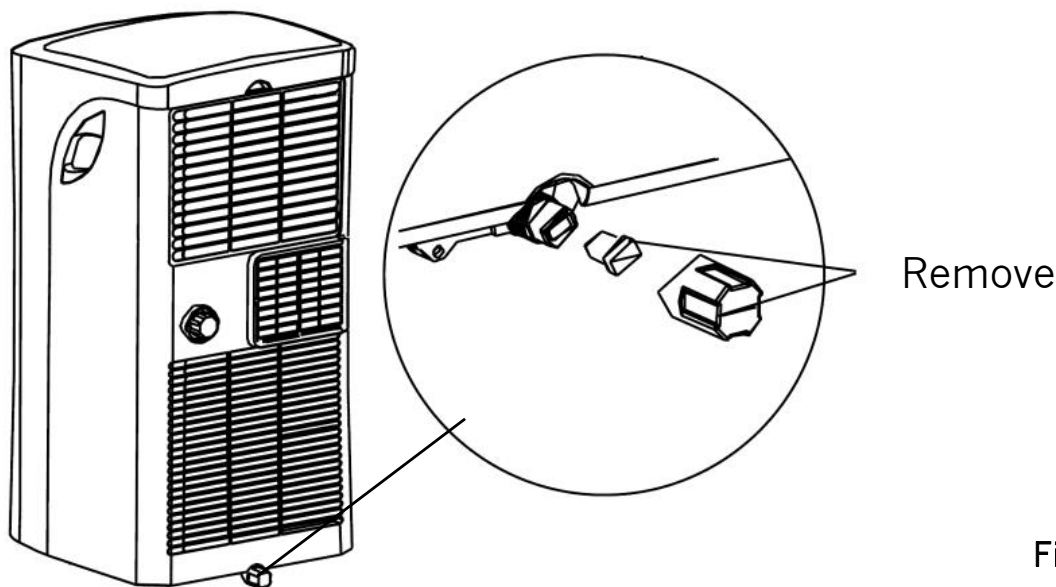

Fig. 10
3. Unscrew and remove the lower drain cap and remove the stopper (fig. 10).